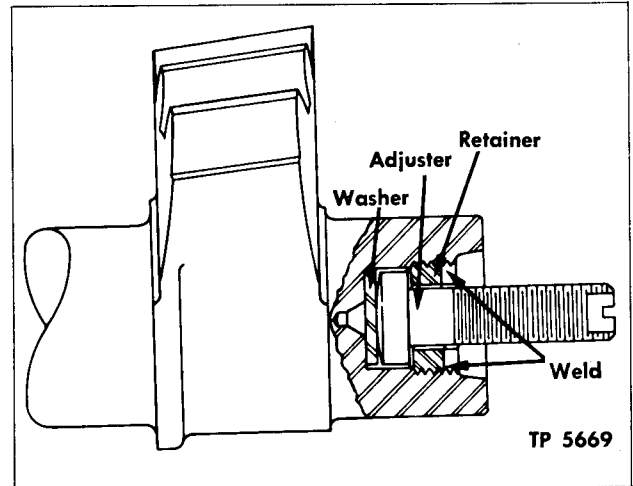

Figure 16—Lash Adjuster Screw Installation
1. Lash adjuster retainer is tack-welded in end of Pitman shaft (fig. 16). Break tack-weld and withdraw retainer from shaft. Remove adjuster screw and thrust washer.
3. Screw retainer in tight; then back off 30 degrees to obtain correct adjustment. Tack-weld retainer at points shown in figure 16.